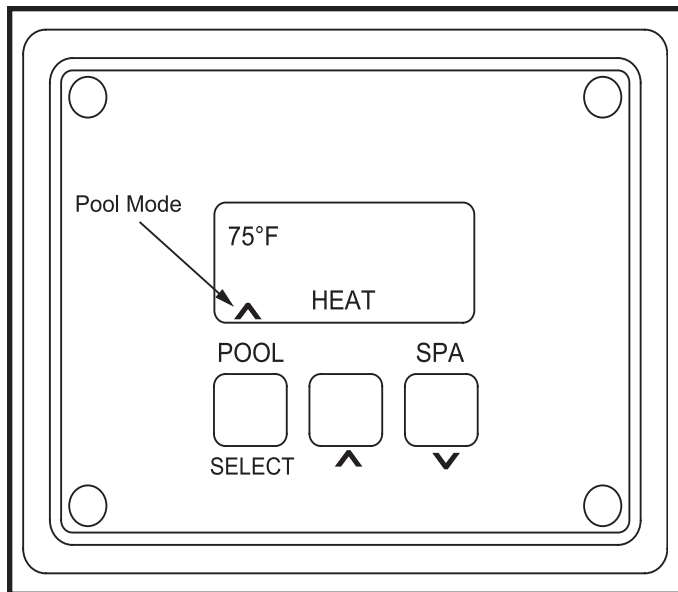

FIG. 42B Pool Temperature Setting
4. The first parameter displayed is the pool temperature setting (Figure 42B).
5. Using the **Up** and **Down** arrow keys, adjust the pool temperature. When at the desired temperature, press the **Select** key (Figure 42B).